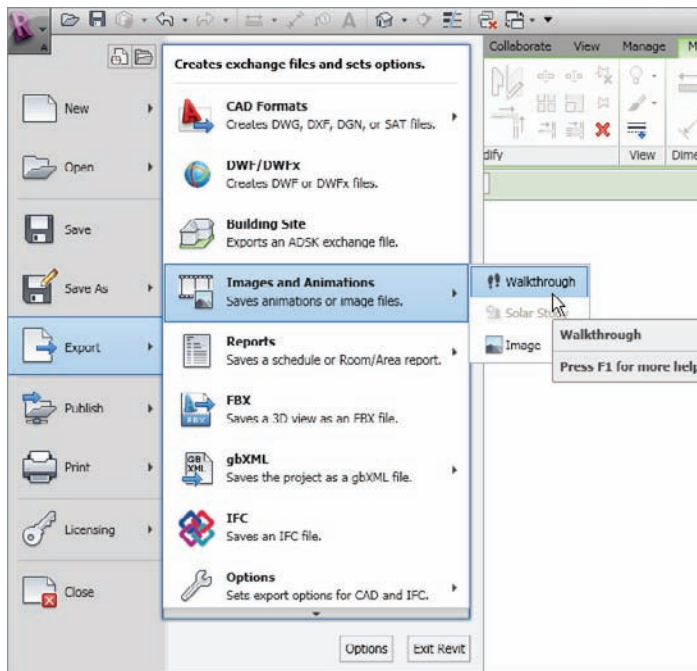

FIGURE 19.23 Choosing to export the walkthrough
in Figure 19.23. By exporting a walkthrough, you're creating an animated vector image (AVI) that will translate the native Revit walkthrough. It's quick and almost completely painless.
2. Choose **Export > Images And Animations > Walkthrough**, as shown in Figure 19.23.